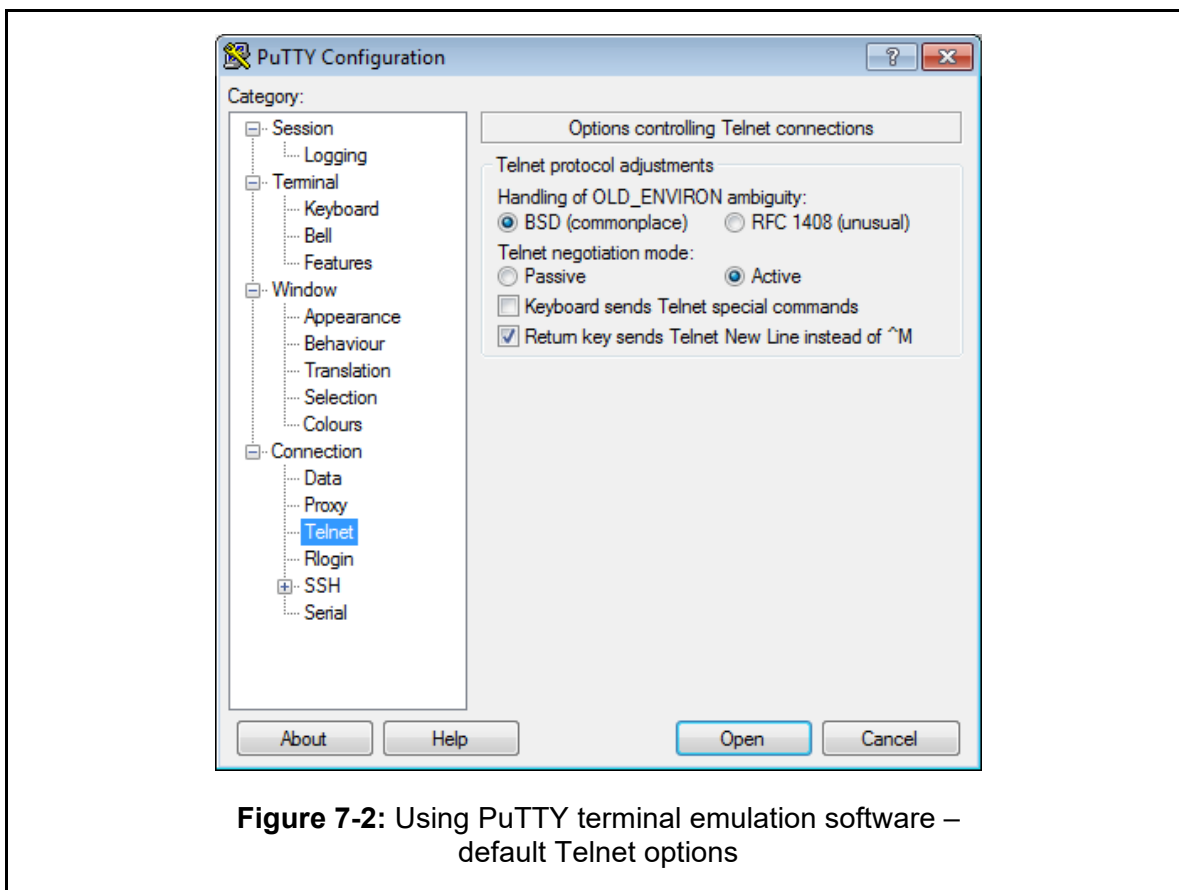

Figure 7-2: Using PuTTY terminal emulation software – default Telnet options
- 3- Accept the default PuTTY Telnet session options, as shown in Figure 7-2.